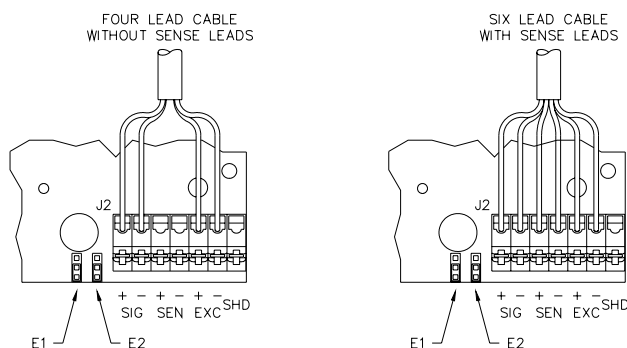
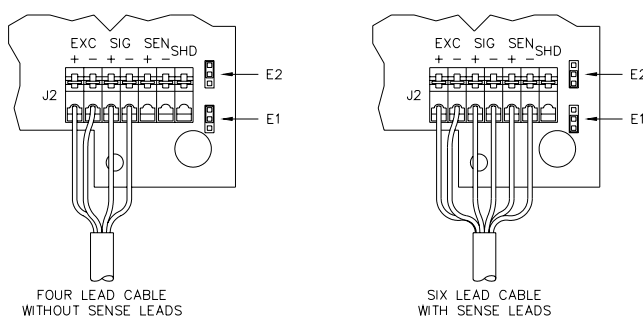

Figure 2-13: 460 Load Cell Connections
Figure 2-14: 560 and 660 Series Load Cell Connections
9. Insert the lead in place, as shown in Figure 2-13 for a 460 Series indicator or Figure 2-14 for a 560 Series or 660 Series controller.